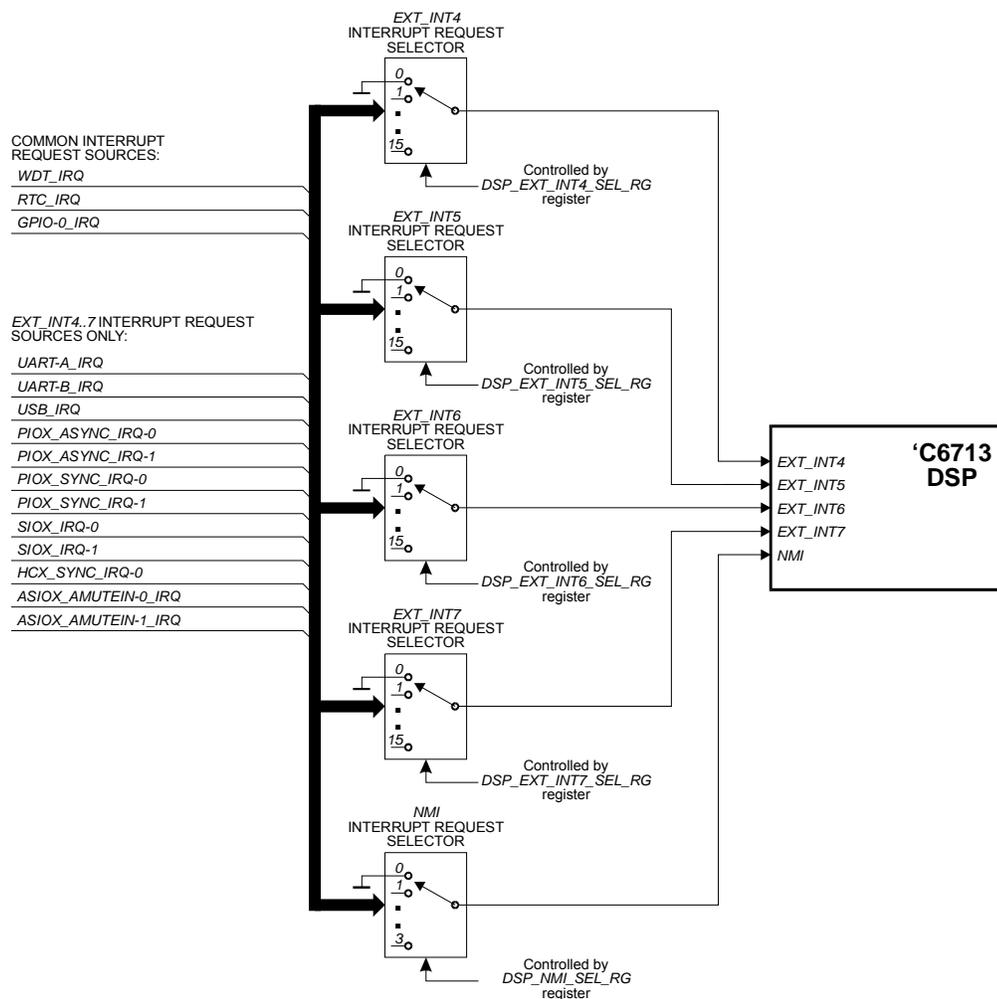

Figure 2-3. Interrupt request selectors for DSP EXT\_INT4..7/NMI external interrupt request inputs of TORNADO-E2/6713 DSP controller.
*TORNADO-E2/6xxx* DSP controllers provide software configured interrupt request selectors for each of TMS320C6xxx DSP EXT\_INT4..EXT\_INT7 and NMI external interrupt request inputs (Figure 2-3). This allows outstanding flexibility for run-time control of DSP external interrupt sources and allows to meet requirements of virtually any DSP application.